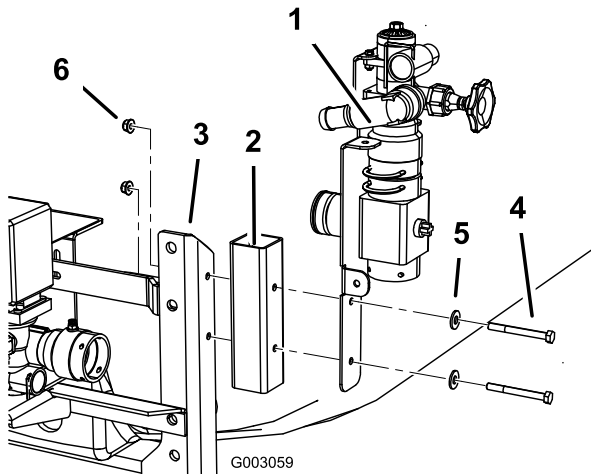

Figure 10
3. Install the control valve and valve mounting tube to the right rear boom frame (Figure 10) using two bolts (5/16 x 3 inches), two washers (3/8 inch) and two flange nuts (5/16 inch).